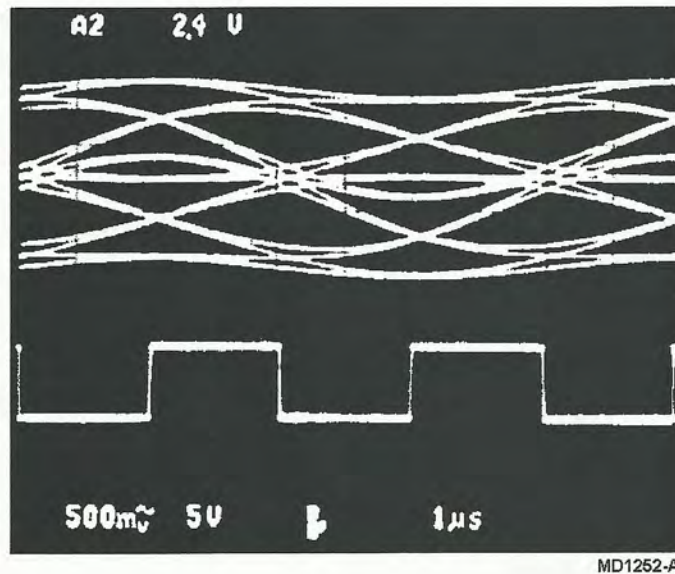

Figure 5-13
8. Connect CH1 scope probe to TP4 A/D IN. Connect CH2 scope probe to TP6 A/D CLK. Trigger scope on CH2. Adjust C78 RCLK AFC ADJ slowly until CH1 waveform synchronizes with CH2 waveform. The SYNC status indicator on the front panel should now be GREEN. Fine adjust C78 for TP18 RCLK AFC LVL = 2.5 VDC \pm 0.5 VDC. Verify falling edge of TP6 A/D CLK waveform aligns with center of eye-pattern as shown in Figure 5-13.